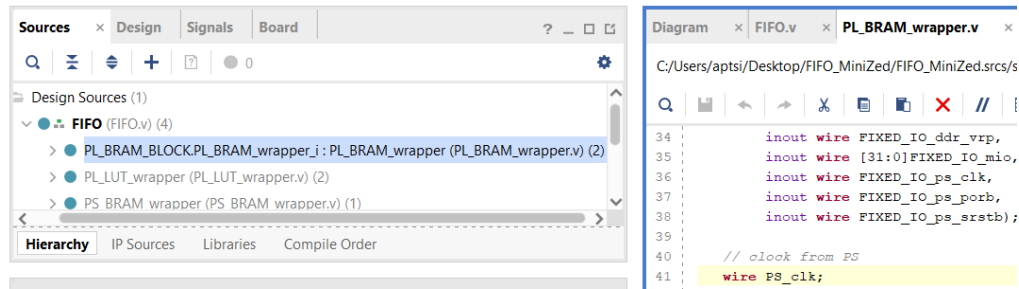
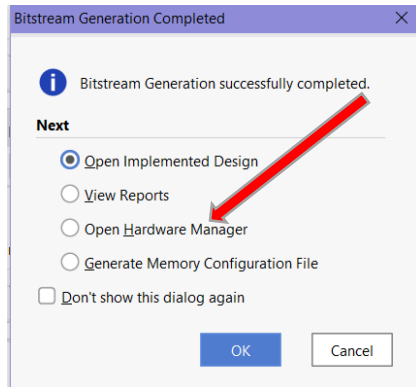

Figure 3: clock extraction from Zynq PS.
Figure 8: bitstream generation finished successfully
input clock to the FIFO. Fig. 3 illustrates a snippet of code from the code which handles clock extraction from PS.
Step 6: Once bitstream generation finishes, you will get a window like in Fig. 8. Now, we need to download the code to *MiniZed* board. Connect your board to the computer using a Mini USB cable. Choose “*Open Hardware Manager*” as it is in Fig. 3, and press *OK*. Next, click on “*Program Device*”. And, the FIFO which uses *BRAM* must be running on your board, at this point.